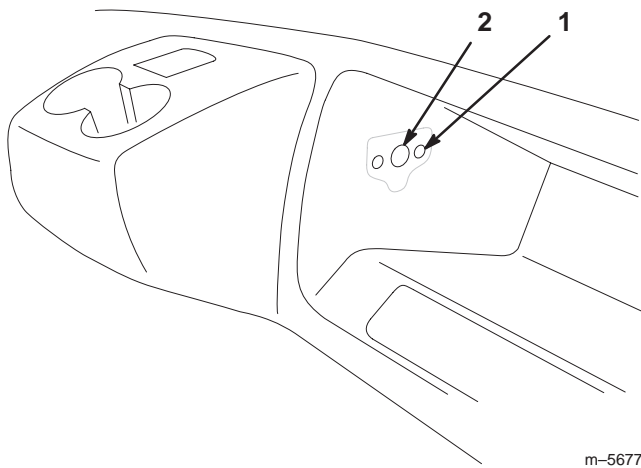

Figure 3
- Using the control plug as a template, locate and mark the holes in the glove box in the approximate location shown in Figure 3. Remove the control plug and drill a 0.95 diameter hole using a 61/64 in. drill bit and (2) 0.201 diameter holes using a #7 drill bit in the side of the glove box as shown in Figure 3.